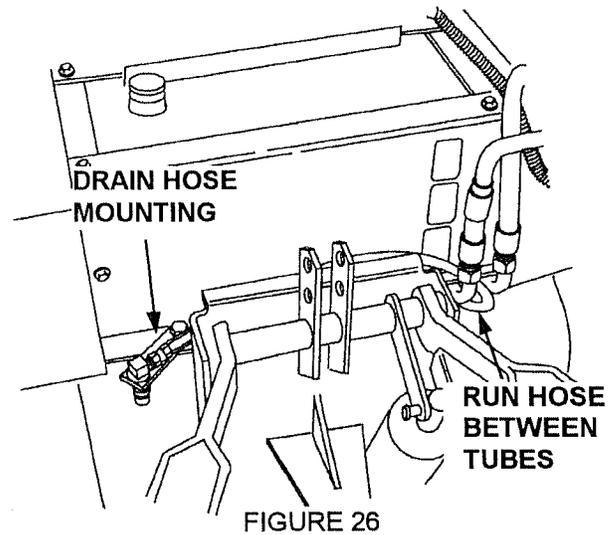

FIGURE 26
5. (See figure 26) Fasten the mounting bar to the rear seat support. Use the 1/2" x 1-1/4" bolt and 1/2" lockwasher.